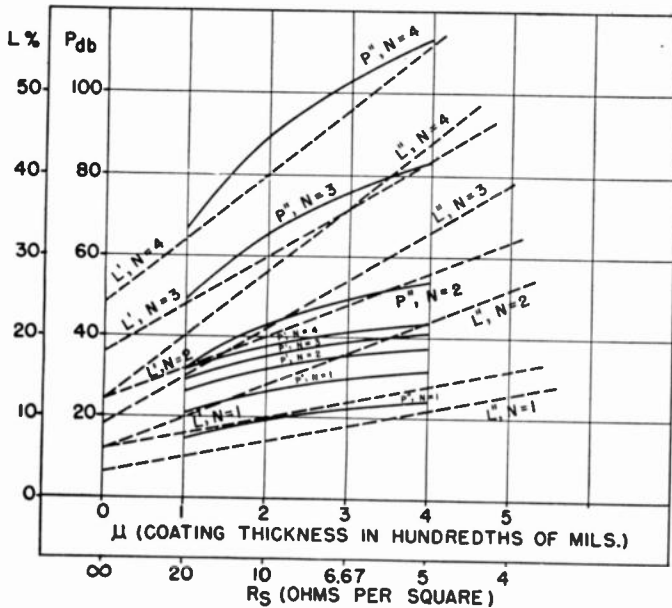

Fig. 5—Plot of P' and P'' , and L' and L'' (approximate) vs. thickness of coating (approximate) for several N (Fig. 2 configuration for $k = 6.5$).
The functions (23)–(26) are plotted on Fig. 5 for the X-band ($\lambda = 3$), as functions of μ , for $N = 1, 2, 3$, and 4.